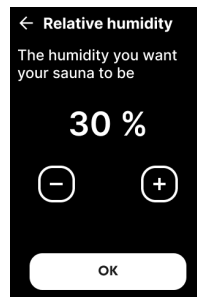

Figure 10
Relative humidity - define desired relative humidity (RH) between 5 – 60 % (Fig. 10) in the sauna room.